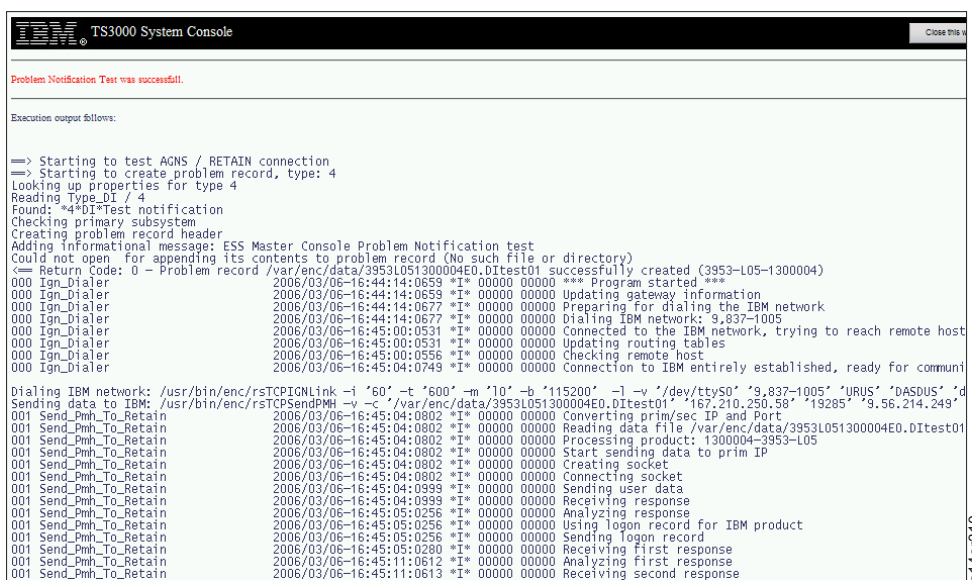

Figure 2-121. Test RETAIN Connection Results Screen - During Installation
- Click **Test Problem Notification** in the right-hand panel to test the PMR path, or click **Test Data Upload** in the right-hand panel to test the data upload path. Details of the results of the test appear in the screen shown in Figure 2-121. If you changed a telephone number, click **Refresh** to refresh the display, then again perform Step 7.